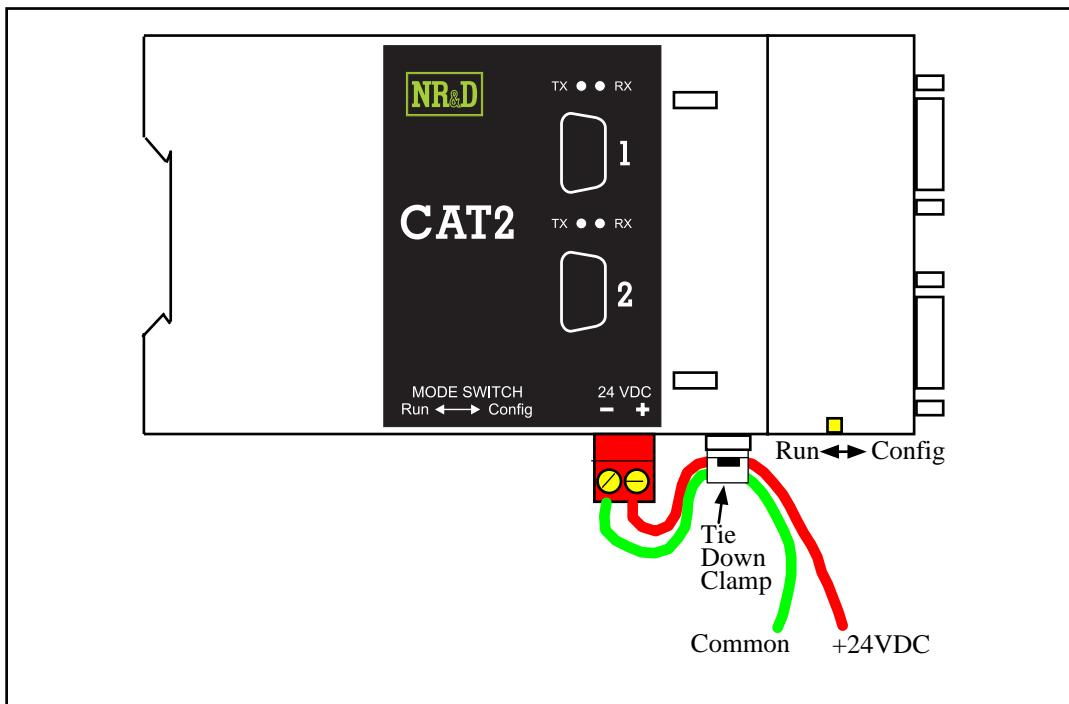

Figure 2-4 Power Supply Connection
- 3 Connect a suitable +24VDC power supply to the CAT2 as in Figure 2-4. .